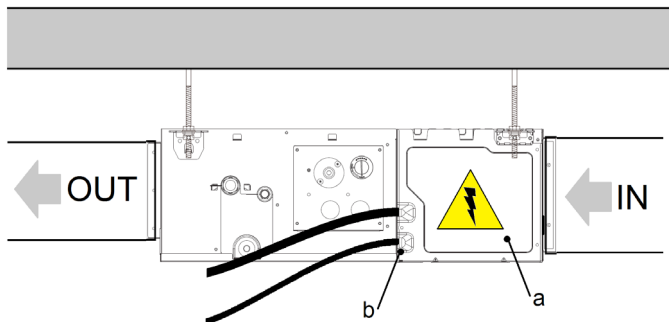

fig. 22
1. Remove the cover panel a Fig 22.
3. Pass the cables through the appropriate slots provided. b Fig 22.